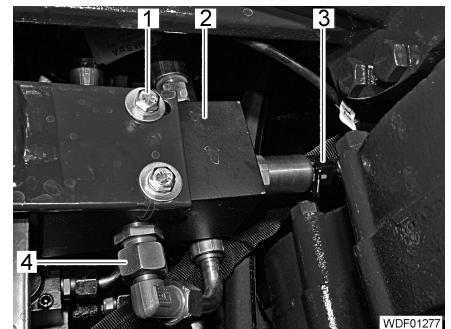

Fig. 240 Valve attachment
- Remove the plug (Fig. 240,3).
- Unscrew and close off the hydraulic line (Fig. 240,4).
- Unscrew the 2 screws (Fig. 240,1) and remove the valve (Fig. 240,2).
- Place on the valve (Fig. 240,2).
- Insert and tighten 2 screws (Fig. 240,1) with spring lock washers and disks.